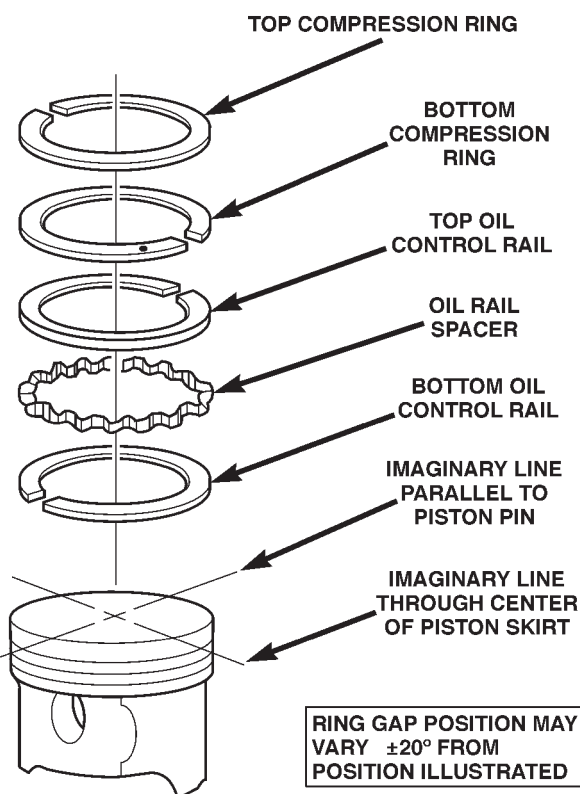

Fig. 14 Ring Gap Orientation
- Position the gaps on the piston as shown (Fig. 14).